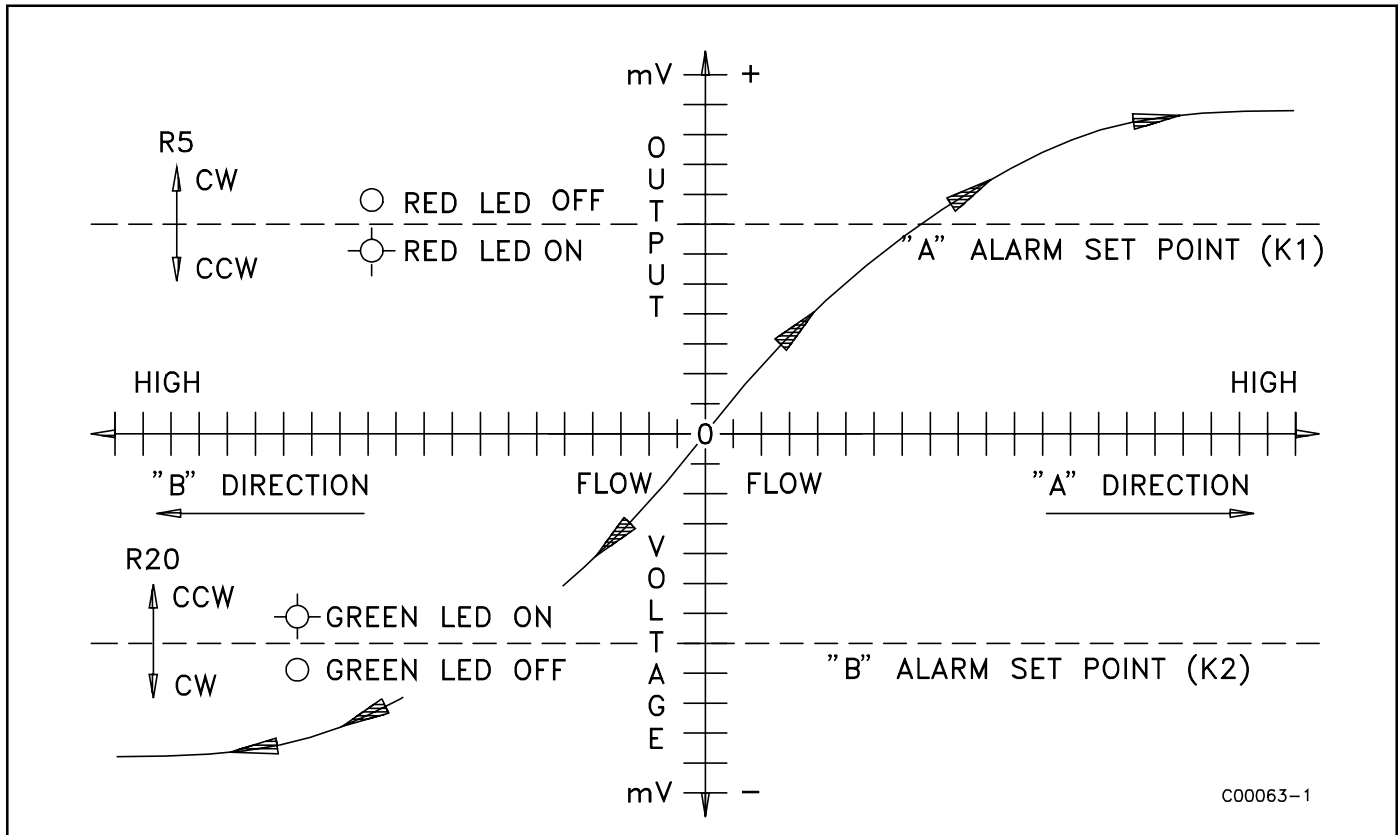

Figure 3-1. Setting Forward and Reverse Alarm Switch Points
The RF83 Flow Switch is delivered in its standard factory set point form unless a custom factory calibration was specified. The standard factory setting is mid-range between no flow and full flow. See Figures 3-1 and 3-2.
If the LED is off, turn the potentiometer clockwise until the LED turns on. If the LED is on, turn the potentiometer counterclockwise until the LED turns off, then turn the potentiometer clockwise until the LED just turns on. With the LED on, turn the potentiometer slowly counterclockwise until the LED just turns off. Turn the potentiometer one-half turn past the point at which the LED just turns off. Be aware that the potentiometer may have up to one quarter turn of hysteresis. If the mark is overshoot, the procedure should be repeated. See Figures 3-1 and 3-2 for potentiometer position and curve results.
If the LED is on, turn the potentiometer counterclockwise until the LED turns off. If the LED is off, turn the potentiometer clockwise until the LED turns on, then turn the potentiometer counter clockwise until the LED just turns off. With the LED off, turn the potentiometer slowly, clockwise until the LED just turns on. Turn the potentiometer one-half turn past the point at which the LED just turns on. Be aware that the potentiometer may have up to one quarter turn of hysteresis. If the mark is overshoot, the procedure should be repeated. See Figures 3-1 and 3-2 for potentiometer position and curve results.
3. Locate the potentiometer (R20) and the green LED on the control circuit. See Figure 3-1 for the potentiometer location.
If the LED is on, turn the potentiometer counterclockwise until the LED turns off. If the LED is off, turn the potentiometer clockwise until the LED turns on, then turn the potentiometer counter clockwise until the LED just turns off. With the LED off, turn the potentiometer slowly, clockwise until the LED just turns on. Turn the potentiometer one-half turn past the point at which the LED just turns on. Be aware that the potentiometer may have up to one quarter turn of hysteresis. If the mark is overshoot, the procedure should be repeated. See Figure 3-1 and 3-2 for potentiometer position and curve results.